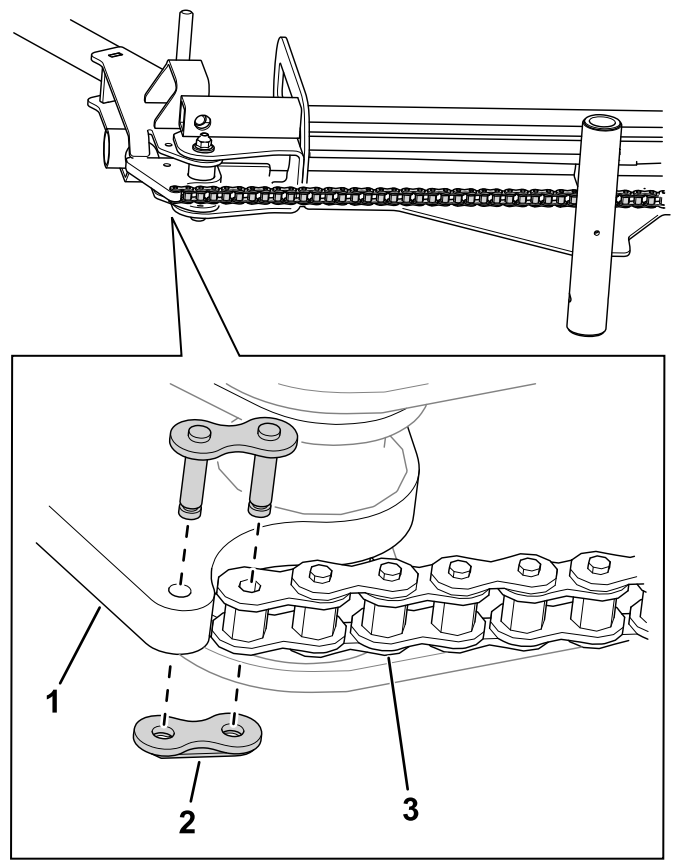

Figure 7
9. Use a chain link to connect the chain to the ramp assembly (Figure 7).